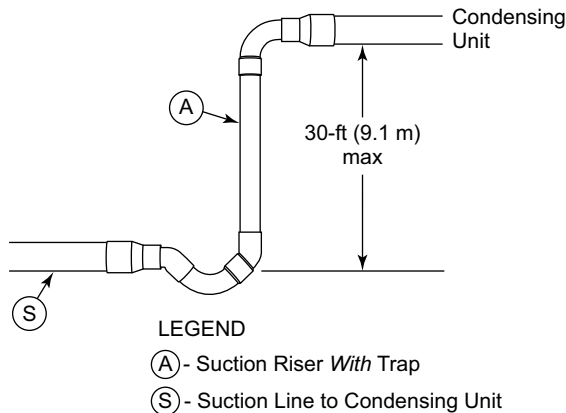

Fig. 5 — Suction Line Piping — Speed Riser
- See Fig. 5 for speed riser diagram.
See Fig. 5 for speed riser reference, where tube S is the horizontal line size and tube A is the reduced diameter riser size.